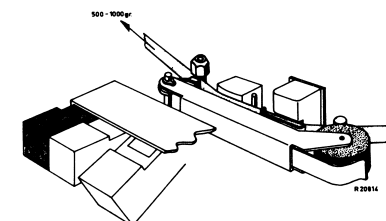

Fig 25
- If a tape is inserted into the apparatus the combination pressure roller/capstan should pull at this tape with a force of 500-1000 gr., see fig. 25. (Tape must be positioned behind the tumbler.) If this would not be the case, the pressure of the pressure roller against the capstan must be checked, and both the pressure roller and the capstan should be cleaned with alcohol.